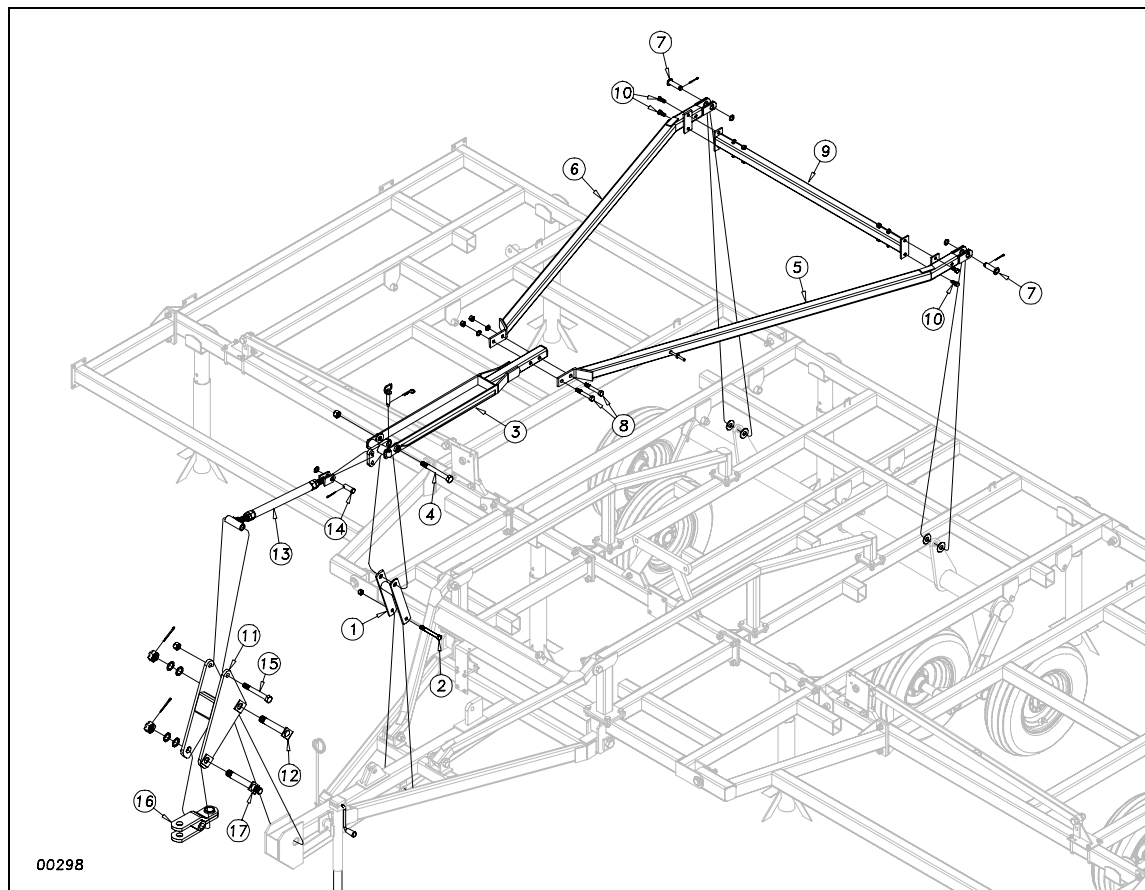

Figure 6
Slide the H-bracket (1) down over the hitch pole as shown in Figure 6. Bolt in place with a 3/4 x 6 bolt (2) and lock nut. Draw this nut up but **do not torque**, as this part must pivot. Attach the level bar cylinder mount (3) to the H-bracket (1) with a 1 X 9 Gr.8 hex bolt (4) with a 1" nylon lock nut **do not torque**.